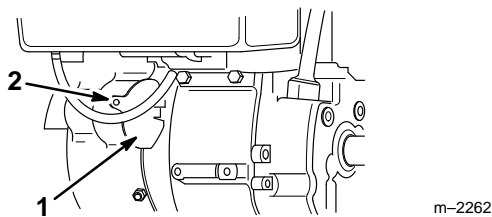

Figure 2
1. Remove and discard one screw securing the pinion cover to the engine and remove the cover (Fig. 2).